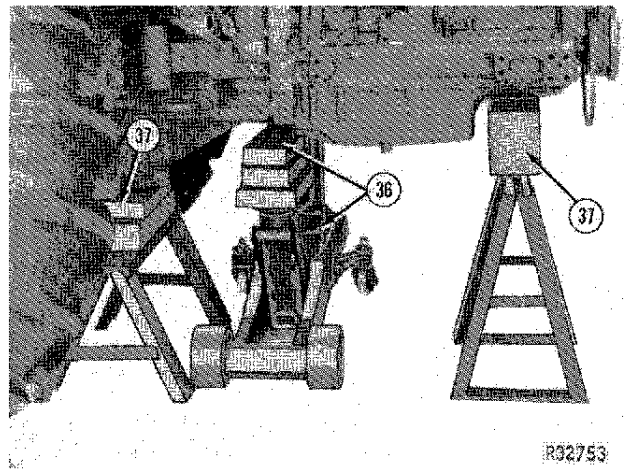

Fig. 43-Positioning Floor Jack and Stands
- 37. Install floor stands as shown in Fig. 43.